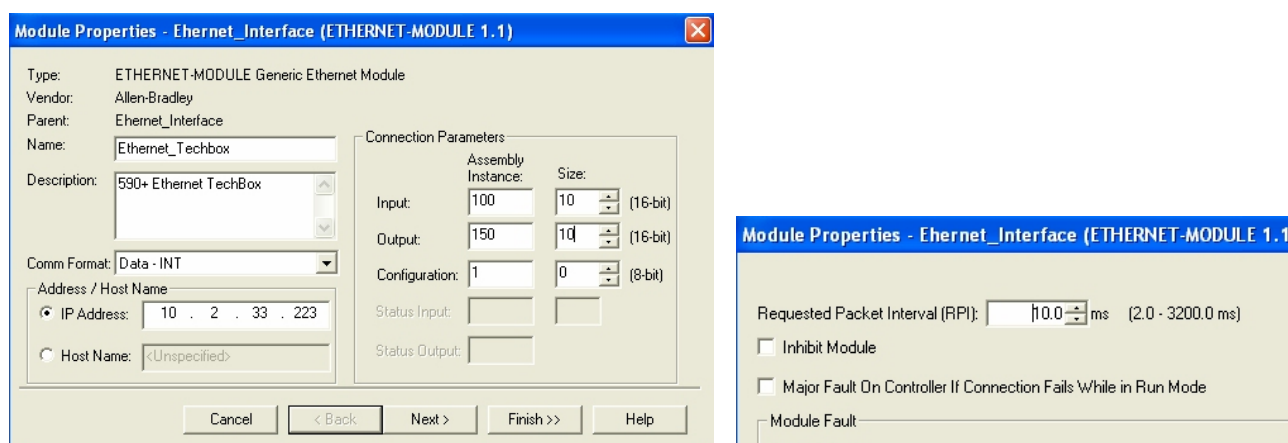

Figure 12. Generic Ethernet Module Setup
14. Input the desired module name and IP address. The Comms format will be DATA Int. (16 bit). The Input Assembly Instance is 100 and the Output Assembly Instance is 150. The data size for the 590 Plus is 10 words and the data size for the 690 Plus is 18 words. Refer to Figure 12.
15. Click on Next to change the Requested Packet Interval (RPI). The default value of 10ms should be sufficient. If The RPI is set below 5ms unreliable communications will be experienced. Refer to Figure 12.